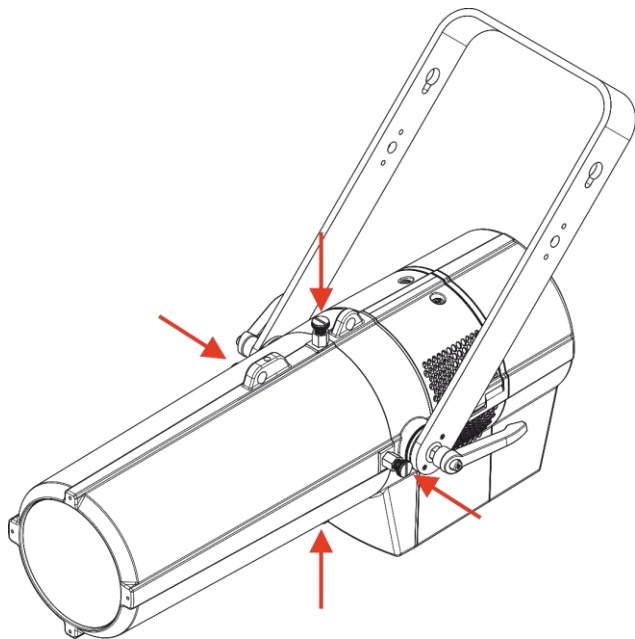
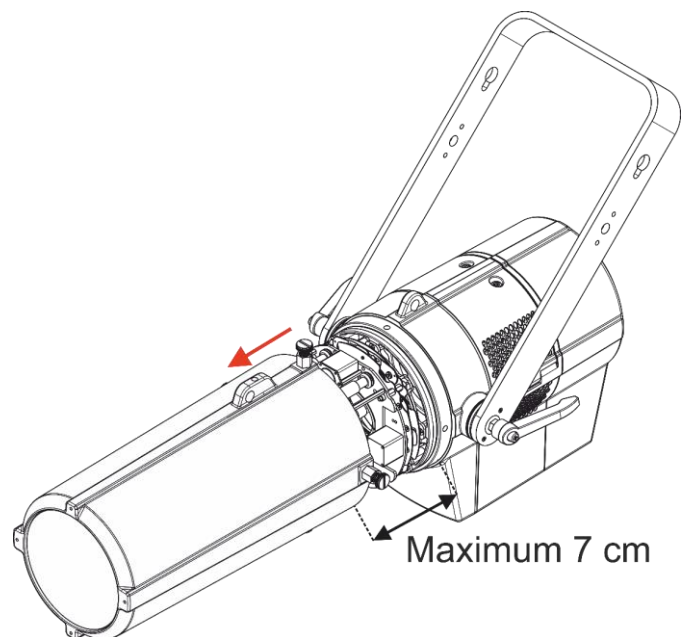

Fig. 13
Fig. 14
- 02) After 30 minutes, loosen the 4 cover mounting screws (Fig. 13) and gently slide the lens tube cover open for 7 cm (Fig. 14). Do not remove the entire lens tube.